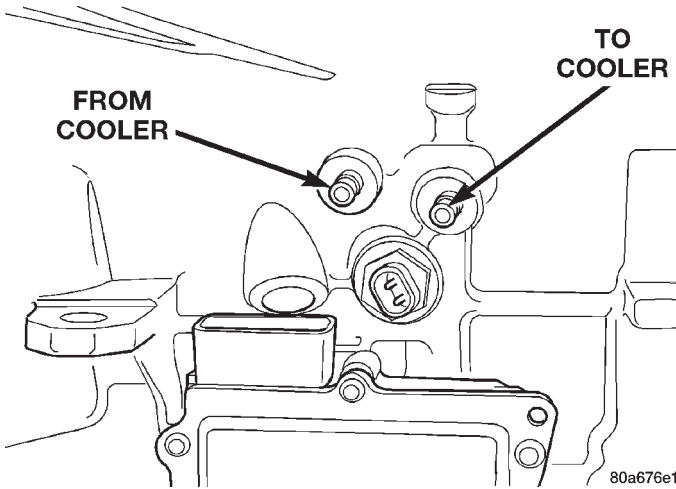

Fig. 9 Cooler Line Location
(3) Verify pump power switch is turned OFF. Connect red alligator clip to positive (+) battery post. Connect black (-) alligator clip to a good ground.
(4) Disconnect the cooler lines at the transmission (Fig. 9).
(1) Disconnect the cooler lines at the transmission.
(2) Using a hand suction gun filled with mineral spirits, reverse flush the cooler. Force mineral spirits into the **From Cooler** line of the cooler (Fig. 9) and catch the exiting spirits from the **To Cooler** line. Observe for the presence of debris in the exiting fluid. Continue until fluid exiting is clear and free from debris.
(3) Using compressed air (under 40 psi.) in intermittent spurts, blow any remaining mineral spirits from the cooler, again in the reverse direction.
(4) Pump one (1) quart of automatic transmission fluid through the cooler before reconnecting.